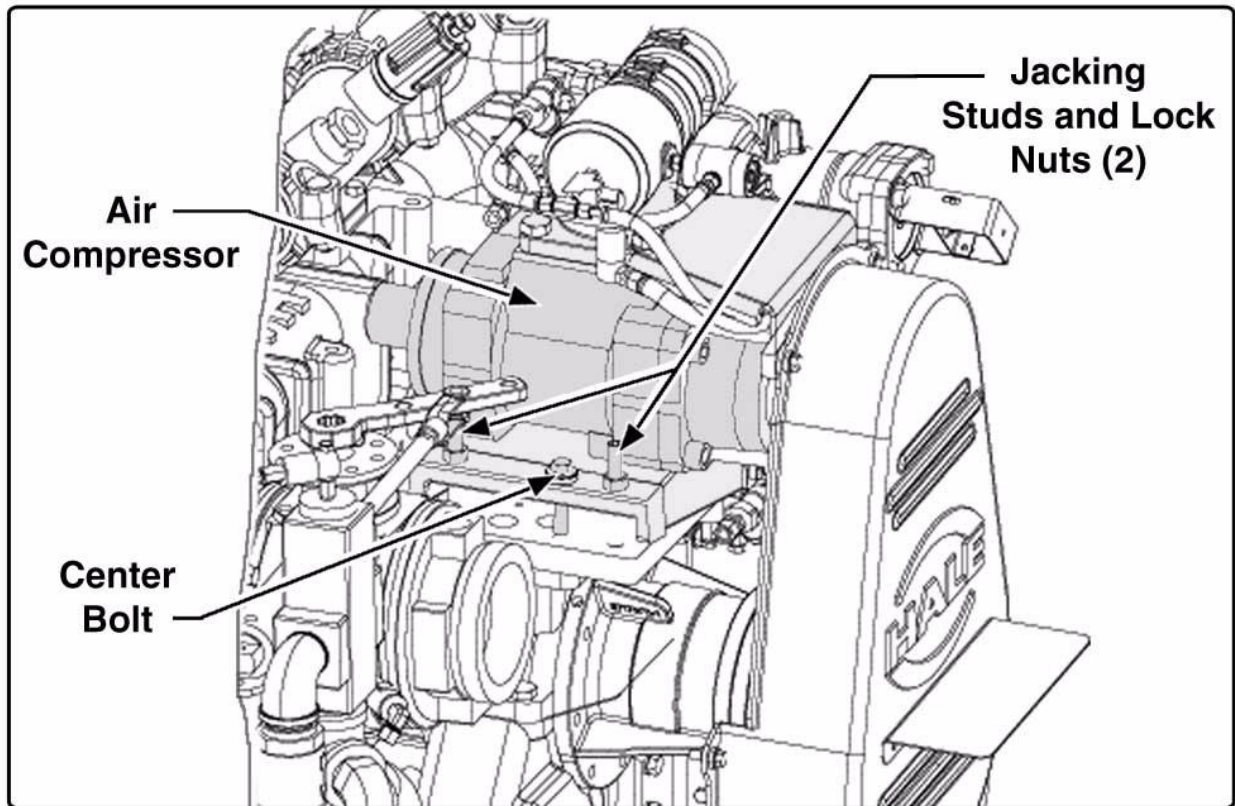

Figure 47: Belt Tension Adjustment Bolts
- a. Loosen the center bolt located in the middle of the compressor mounting bracket. (See Figure 47)
- a. Loosen the two studs located at both ends of the mounting bracket. (See Figure 47)